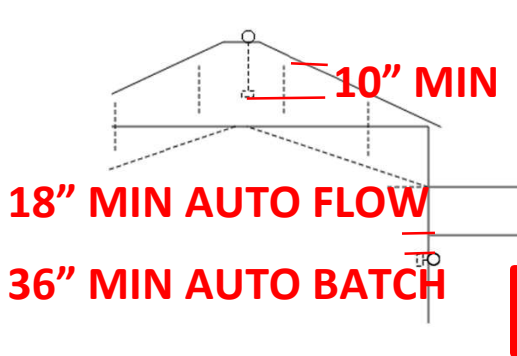

Figure 30
- Drying chamber full rotary paddle mounted a minimum of 10in below the top of the top leveling band. Ex (Figure 30)